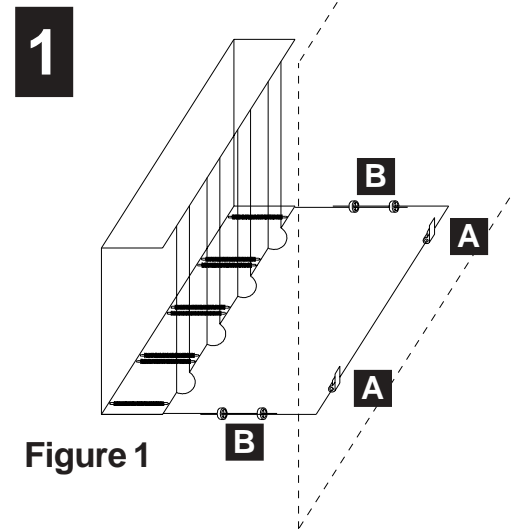

Figure 1
1. Fold down the adjustable support arms so that they are perpendicular to the dispensing rack (unit will form a 90° angle). (See Figure 1)
2. Position the dispensing rack against the vertical surface that will be utilized for the installation of this item. Position the rack so that the discharge end is at the bottom. (See Figure 1)
3. Attach the adjustable support arms to the wall with the supplied mounting brackets. (See Item A in Figure 1)
4. Use the supplied allen wrench to loosen the set screws in the two clamps on each side of the adjustable support arms. (See Item B in Figure 1)